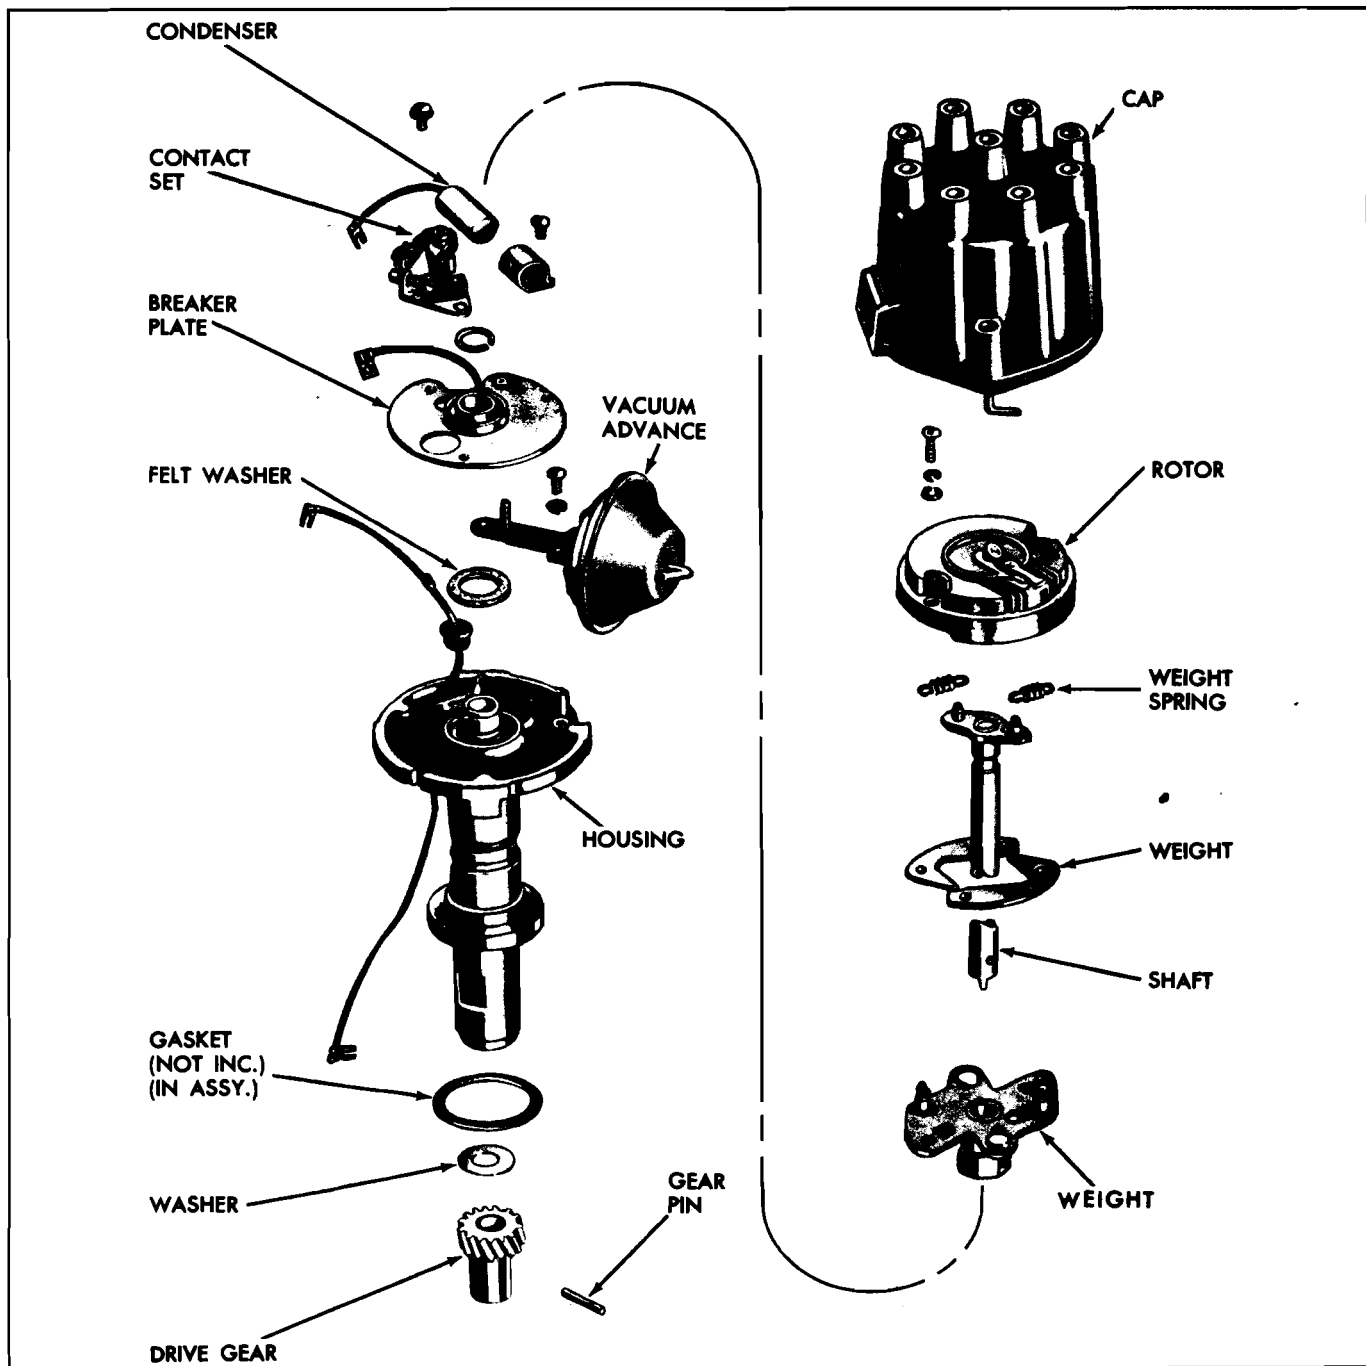

Fig. 6E-30 Exploded View of V-8 Distributor
1. Check to see that engine is at firing position for No. 1 cylinder (No. 1 piston at top of compression stroke) and timing mark on harmonic balancer is indexed with the proper mark on the timing chain cover (Fig. 6E-34).
3. Install distributor in block so that vacuum diaphragm faces left side of engine and rotor points toward contact in cap for No. 1 cylinder. Before installing distributor, index rotor with housing as noted when distributor was removed. This will simplify indexing distributor shaft and gear with oil pump drive shaft and drive gear on camshaft. Distributor and rotor will be positioned as shown in Fig. 6E-31 when properly installed with No. 1 piston in firing position.